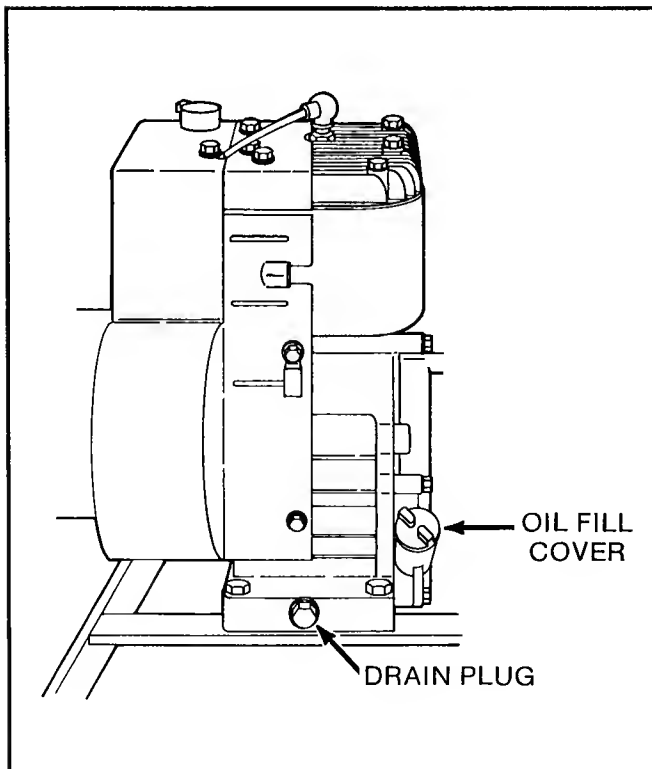

Figure 9
4. Remove oil drain plug (Figure 9) and drain oil into an appropriate container.